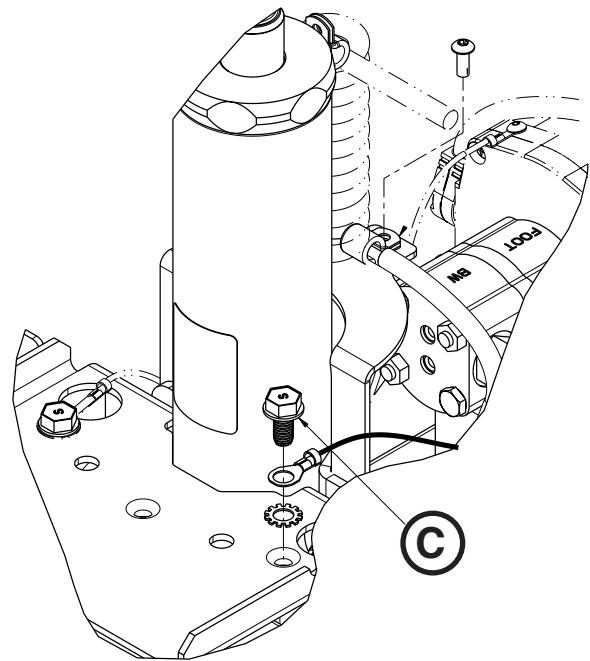

Figure 29
7. Using a 1/2" socket with a 3/8" drive extension and a 3/8" drive ratchet, remove the coil cord ground (C) from the base weldment and set aside (Figure 29).